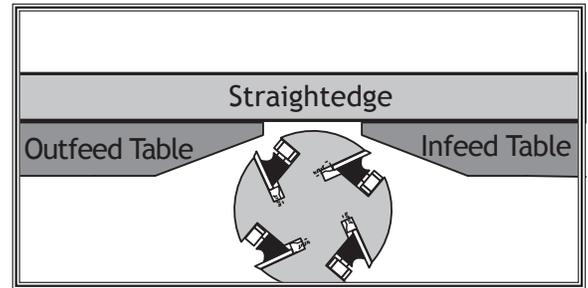

Figure 40. Infeed and outfeed tables set evenly (knife-style cutterhead shown).
3. Rotate cutterhead so knives/inserts will not interfere, then place straightedge on infeed and outfeed tables and adjust infeed table even with outfeed table, as shown in **Figure 40**.